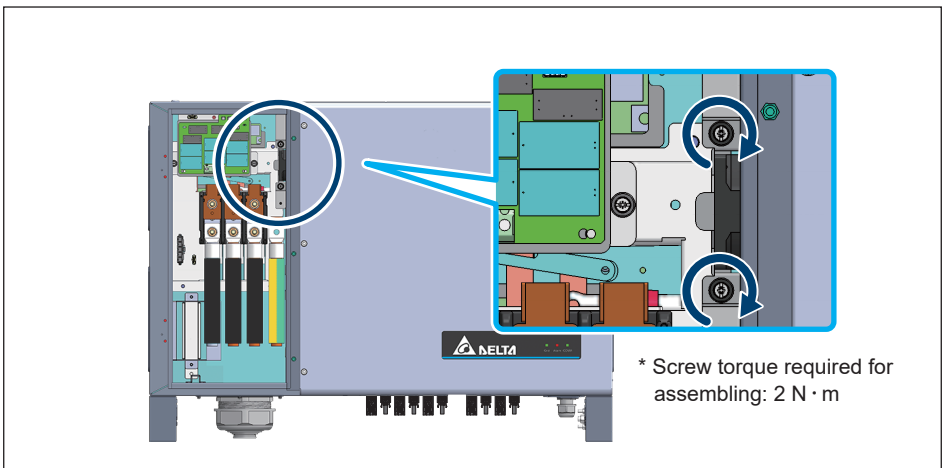
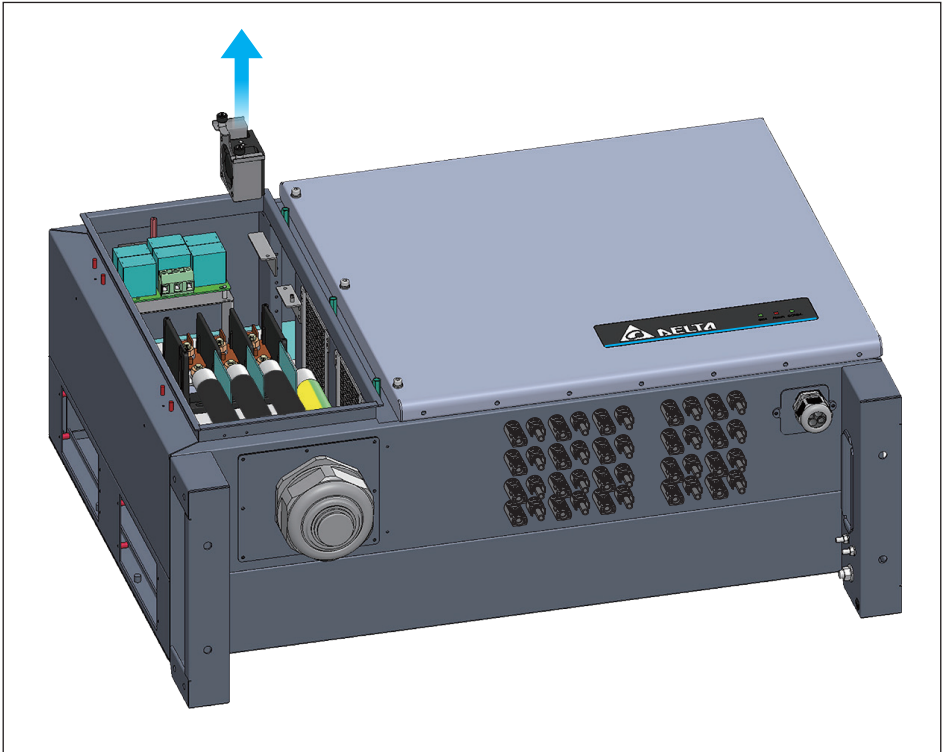

Figure 5-21: Internal Fan 2 location
Figure 5-22: Take off the internal Fan 2
- (2) Remove the two screws shown in **Figure 5-21**.
- (3) Disconnect the fan power connector.
- (4) Lift the entire fan assembly from the left compartment. (shown in **Figure 5-22**)